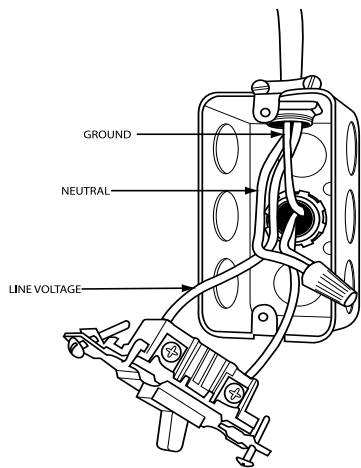

Fig. 34 – External Electrical Box
5. Fasten the external electrical box to the furnace casing using two (2) sheet metal screws.
11. Connect field power and neutral leads to furnace power leads inside the external electrical box as shown in Fig. 34.
1. Drill two (2) 1/8-in. (3 mm) pilot holes through the dimples in the furnace casing near the 7/8-in. knock-out on the side of the casing. Do not remove the knock-out in the side of the casing.
9. Connect field power and neutral leads to furnace power leads inside the external electrical box as shown in Fig. 34.